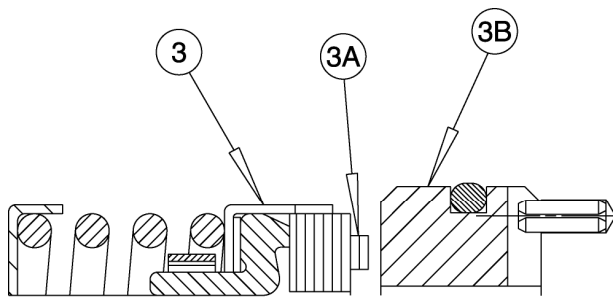

Figure 1 – Elastomeric Bellows Type Mechanical Seal
5. If pump has a mechanical seal (16), apply clean lubricating oil to rotor shaft at seal diameter.
- a. **If seal has elastomeric rubber bellows, (see figure 1)**, apply light film of oil to bore of bellows and install rotating assembly (3) on power rotor (7) shaft with a twisting motion by pushing on seal retainer **only** with fingers. Do not touch carbon face with fingers. Clean carbon face of seal with alcohol and lint free cloth. Apply light film of clean lubricating oil to carbon face.